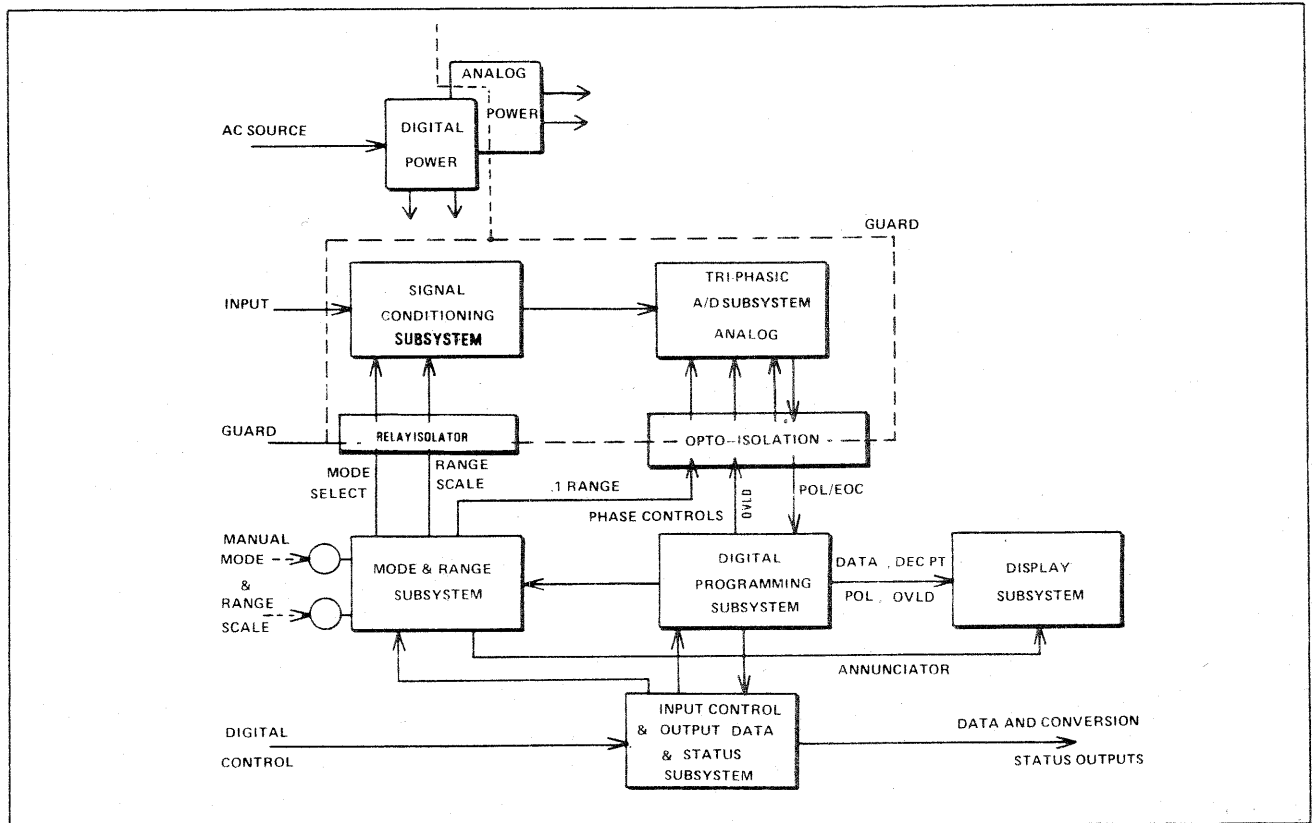

Fig. 4-1. Model 3400DMM System Block Diagram
4.2 SYSTEM BLOCK DIAGRAM (FIGURE 4-1)
As shown in Figure 4-1, Model 3400DMM consists of six operating subsystems and a power supply subsystem. The analog A/D and input conditioning subsystems are isolated from the others by opto-isolators and relays for maximum system flexibility and noise-free performance. In addition the power supplies for analog and digital circuits are decoupled by appropriate transformer shielding to maintain the integrity of the analog-digital isolation.
Inputs of less than 0.1 volt are signal conditioned for the nominal 1 volt full scale, but are scaled by changing gains in the analog A/D subsystem. The control signal for this operation is transmitted to the analog section via opto-isolator to maintain the analog-digital isolation when in the X.1 range scale. (Figure 4-1.)